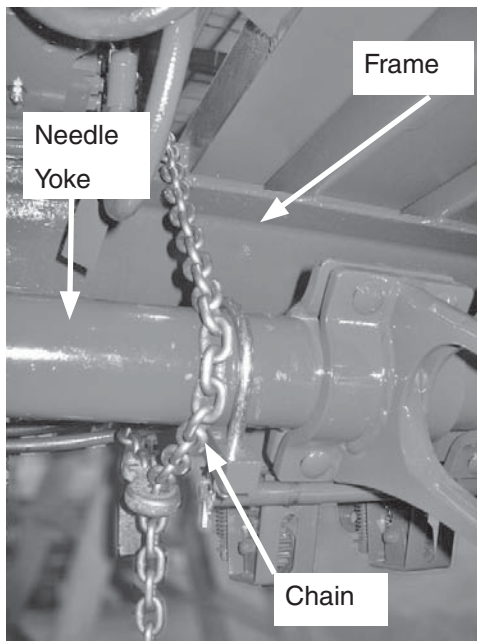

Figure 5-31. Twine Needle Yoke Chained to Frame. Similar for Feeder and Feed Fork.
4. To prevent the Feeder from moving, secure the Feeder to the frame with a 3/8" chain (see Figure 5-31).
3. Connect a 5,000 psi gauge to port (A).
4. To prevent the Feed Fork from moving forward, secure the Feed Fork to the frame with a 3/8" chain (see Figure 5-31).
4. To prevent the Feed Fork crank shaft from moving, secure the Feed Fork to the frame with a 3/8" chain (see Figure 5-31).
6. Connect a 5,000 psi gauge to port (A).
7. To prevent the knotter from moving in reverse, strap a 3/8" chain around the middle of the needle yoke to the frame (see Figure 5-31).